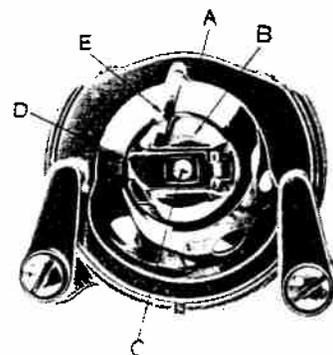

Fig. 11
Raise needle bar to highest position, and open front cover to the left. (See 14 Fig. 1) Hold the bobbin case latch, (D, Fig. 11) between the thumb and forefinger of the left hand, with at least three inches of thread running from the top of the bobbin case to the right. Insert and center the bobbin case on the stud of the shuttle body, (C). Be sure the bobbin case finger, (E), is opposite the shuttle race notch (A). Press the bobbin case (B) into the shuttle as far as possible until latch catches on the center post of the shuttle. THEN release the bobbin case latch, (D). Press bobbin case again after latch has been released to make sure the bobbin case is locked securely in place. Close the front cover.